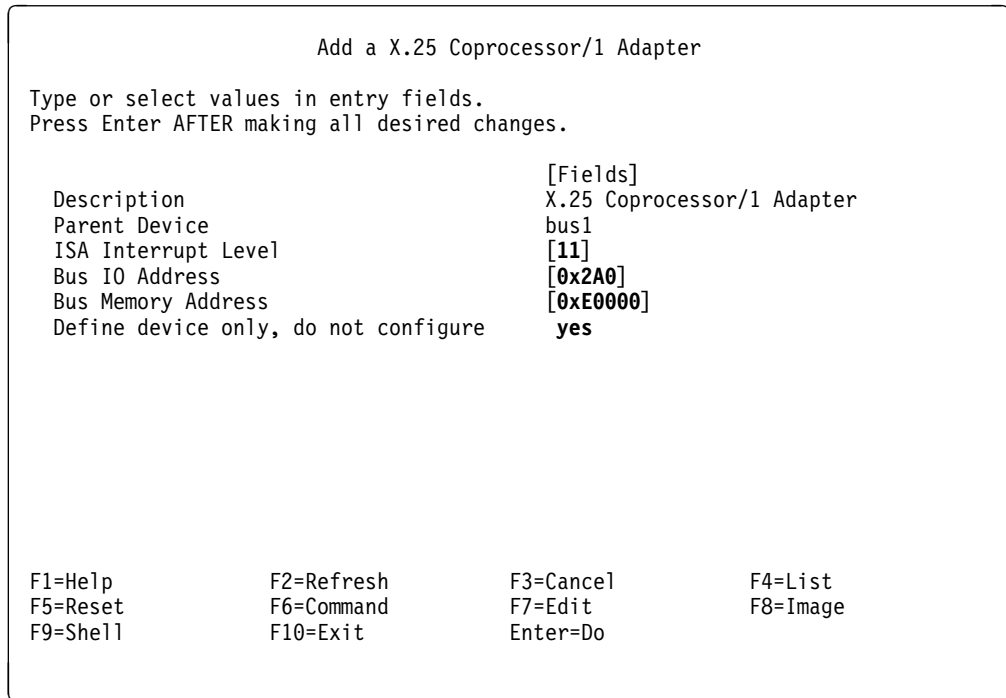

Figure 39. SMIT Configuration Menu for Adding an X.25 Interface Co-Processor ISA Adapter
12. From the menu described in Figure 39 on page 124, select the correct Interrupt Level, Bus I/O Address and Bus Memory values, and press **Enter**.